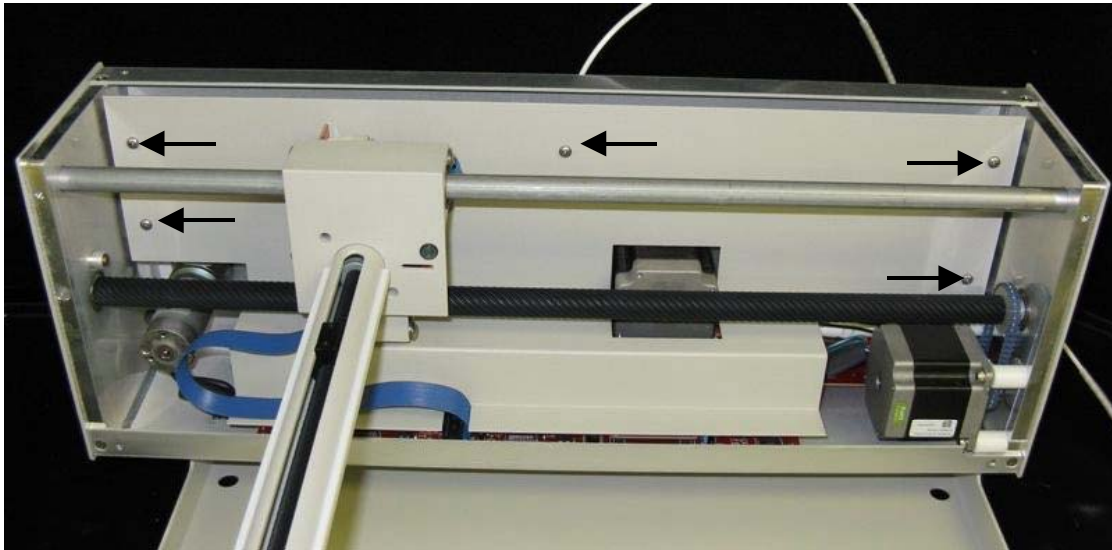

Figure 1-9. View of inner shield inside the ASX-520 (old shield).
8. The five screws that hold the inner shield will have to be removed. Move the Y-axis assembly all the way to the left. See Figure 1-9. If you have a newer two piece shield and splashguard proceed to step 10.